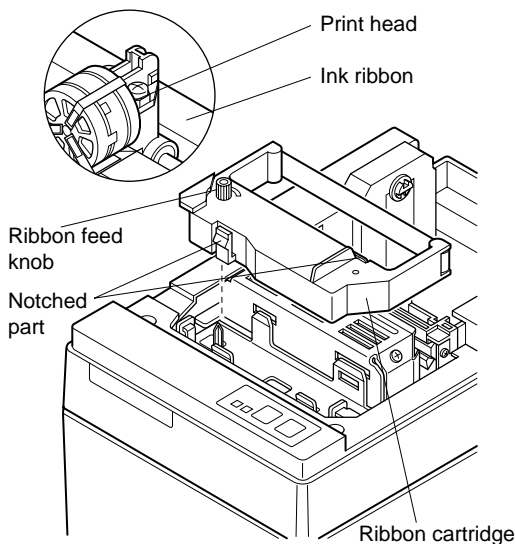

Fig. 4-2 Loading the ribbon cartridge
- ① Turn off power to the printer.
- ② Lift the cover up approx. 3 cm. Hold the cover tilted at this angle, then pull it toward you to remove it.
- ③ Place the ribbon cartridge in the direction shown in Fig. 4-2 and press it down to load it. If loading of the ribbon cartridge is not satisfactory, press down the cartridge while rotating the ribbon feed knob in the direction of the arrow.
- ④ Turn the ribbon feed knob of the ribbon cartridge in the direction of the arrow to remove slack in the ribbon.
- ⑤ Mount the cover by reversing the procedure outlined in step ② above.